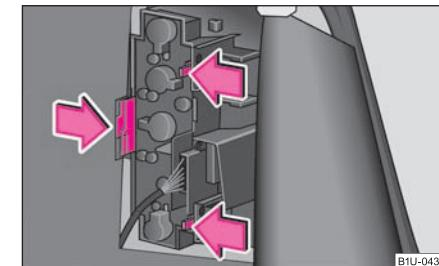

Fig. 179 Luggage compartment: Light bulb holder
- Press off the catches in the direction of arrow ⇒ fig. 179 and take out the lamp holder.